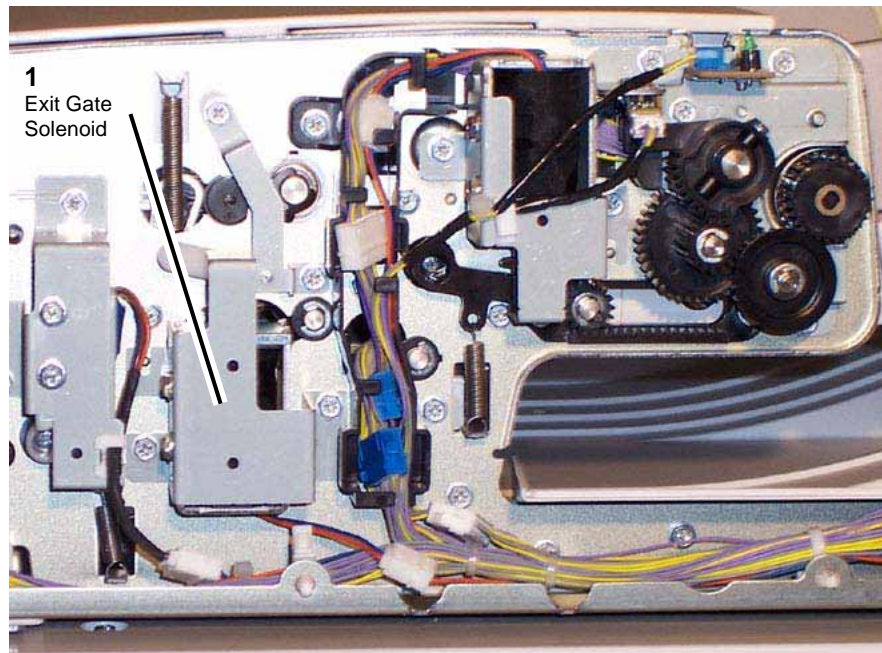

Figure 5 Exit Gate Solenoid
24. Remove the Exit Gate Solenoid. PL 14.11 Figure 5
- c. Remove the screws (2).